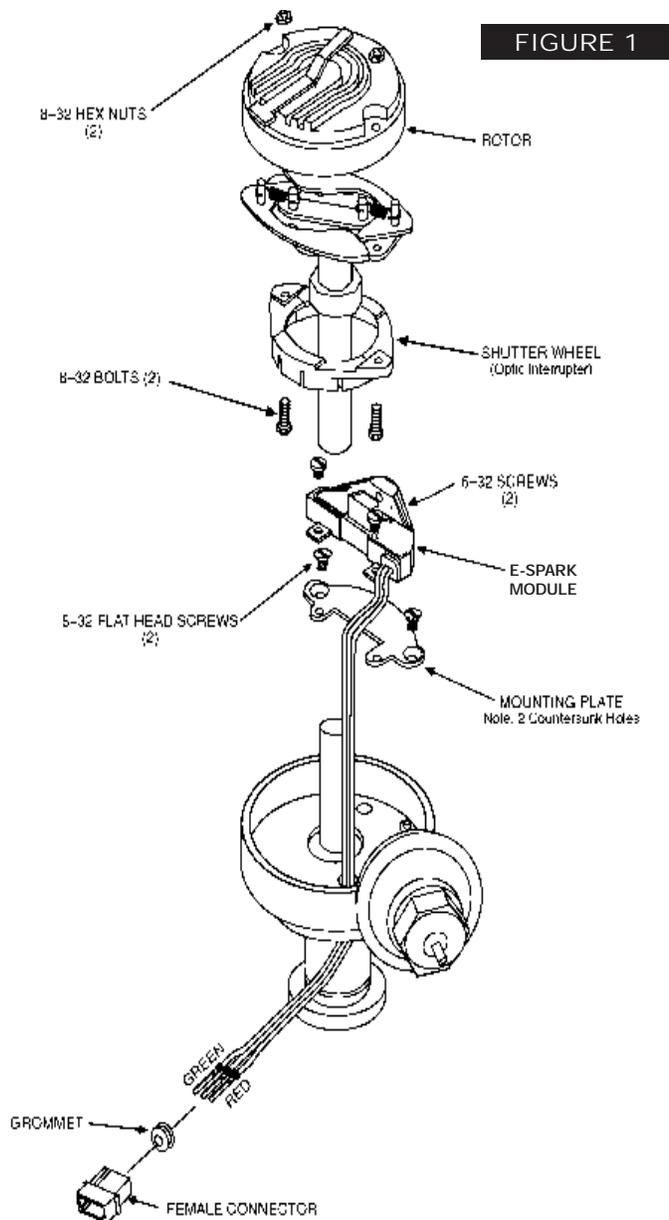

FIGURE 1
Step 7 (See Figure 1)
Apply a thin coat of white silicone grease to the bottom of the module. Install the module onto the mounting plate with two 6-32 x 3/16 screws. See Figure 1. Secure the three module wire to the breaker plate with a cable tie.
Install the two-piece shutter underneath the rotor drive plate and install two 8-32 bolts. The hex heads of the 8-32 bolts fits into the matching holes on the underside of the shutter wheel. Install the rotor on the rotor drive and install two 8-32 hex nuts. See Figure 1.